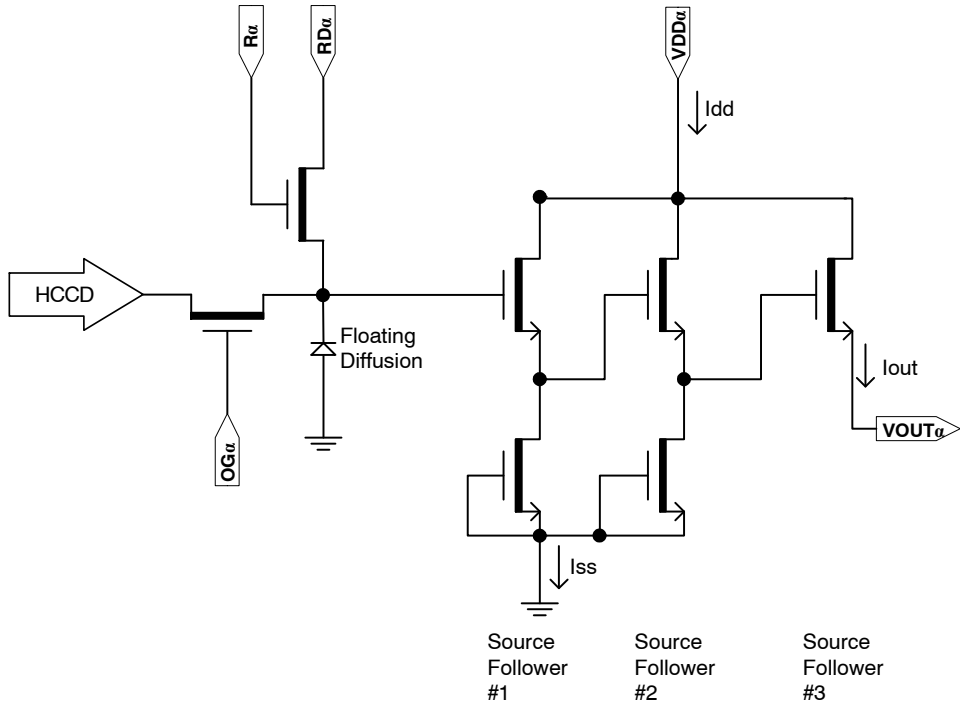

Figure 19. Output Amplifier
- The maximum DC current is for one output. I_{dd} = I_{out} + I_{ss}. See Figure 19.